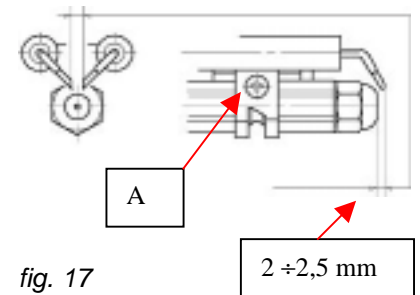

fig. 17
- Unscrew the screw **A** (fig. 17) and remove the electrodes.
distances between the electrodes and between the nozzles and electrodes (fig. 17).